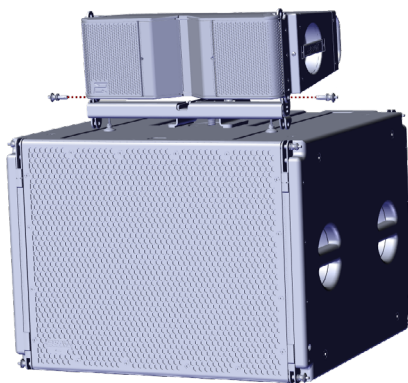

Figure 16
- Place module on frame and pinning both front locations with pins on cabinet (Figure 16).